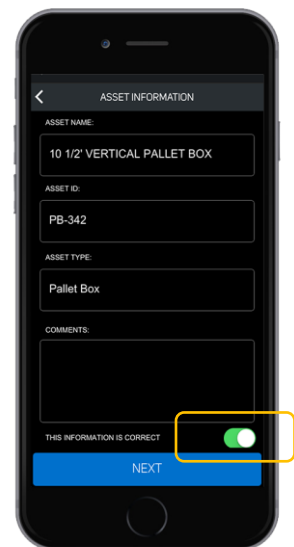

FIG. 4
- 7) FIG. 4 shows the next screen. Here the user can verify that the information for this asset is correct by switching the toggle to green where it says “This information is correct.” Tap “Next.”